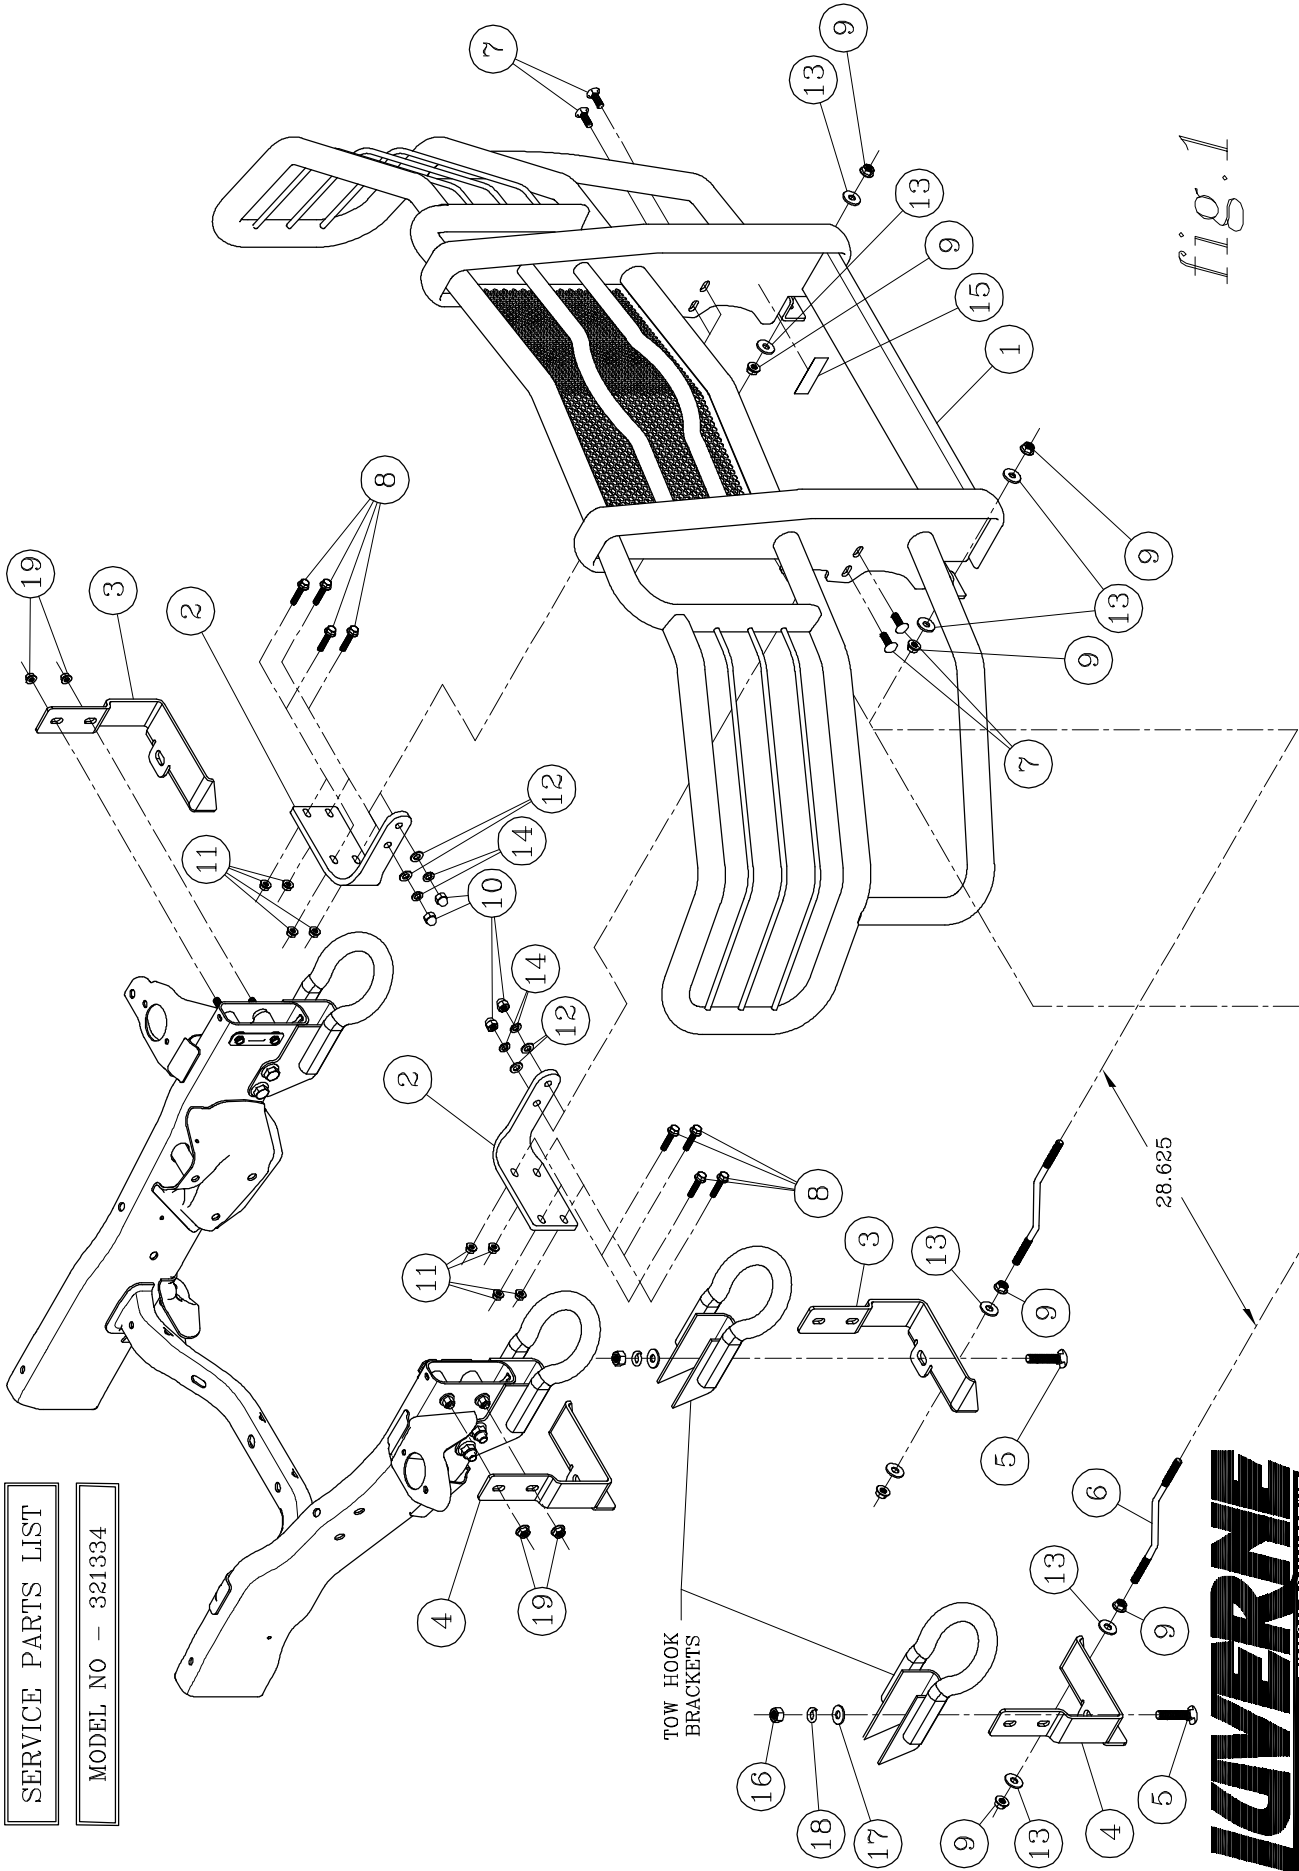

fig.1
2. INSTALL THE TOP MOUNTING BRACKETS (ITEM #2) TO THE PLATES ON THE END OF THE FRAME USING THE FOUR M10 X 1.5 X 45mm WASHER HEAD BOLTS (ITEM #8) AND THE FOUR M10 X 1.5 FLANGE NUTS (ITEM #11). AS SHOWN IN *fig. 1*. HAND TIGHTEN ONLY AT THIS TIME.